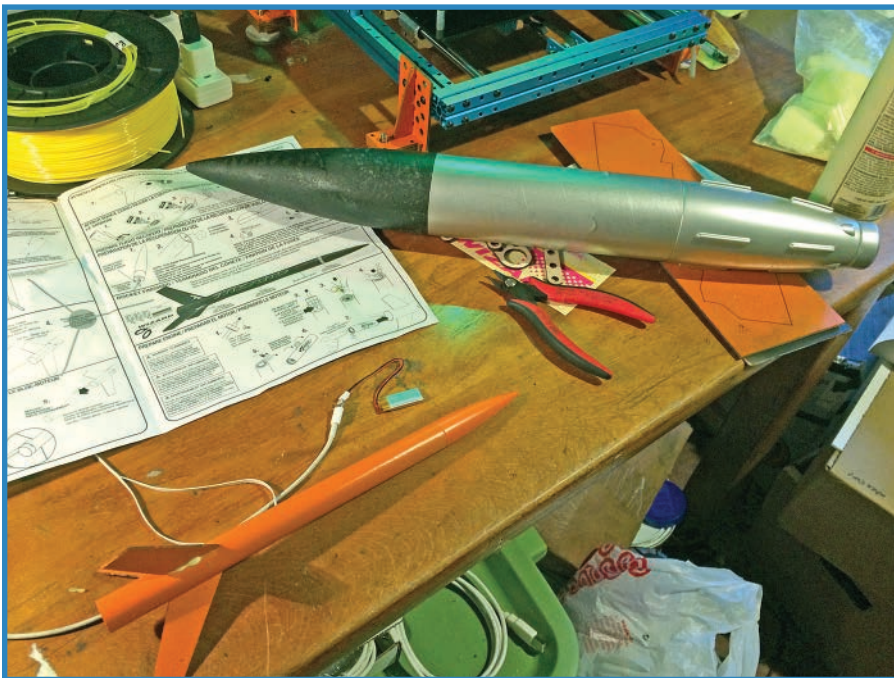

FIGURE 5.13 Assemble the rocket and then paint it!
1. Build the rocket. Follow the instructions that came with the V2, and assemble and paint it as usual. You can see my rocket in progress in Figure 5.13.